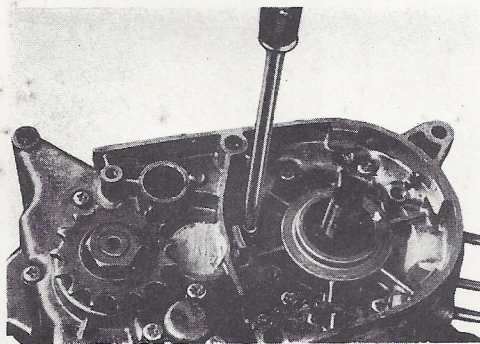

Fig. 3-14-1
- a. Remove the pan-head screw on the left side crankcase. (Fig. 3-14-1)